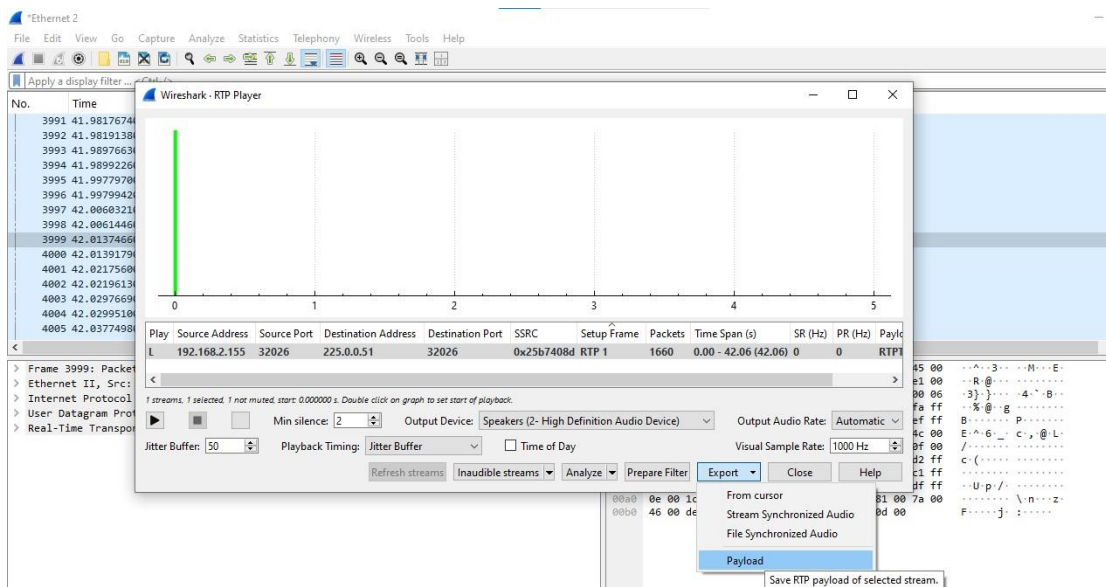

Figure 47: RTP Player to Payload
- 16 Click on Export tab and select Payload to save the data as shown in Figure 47.